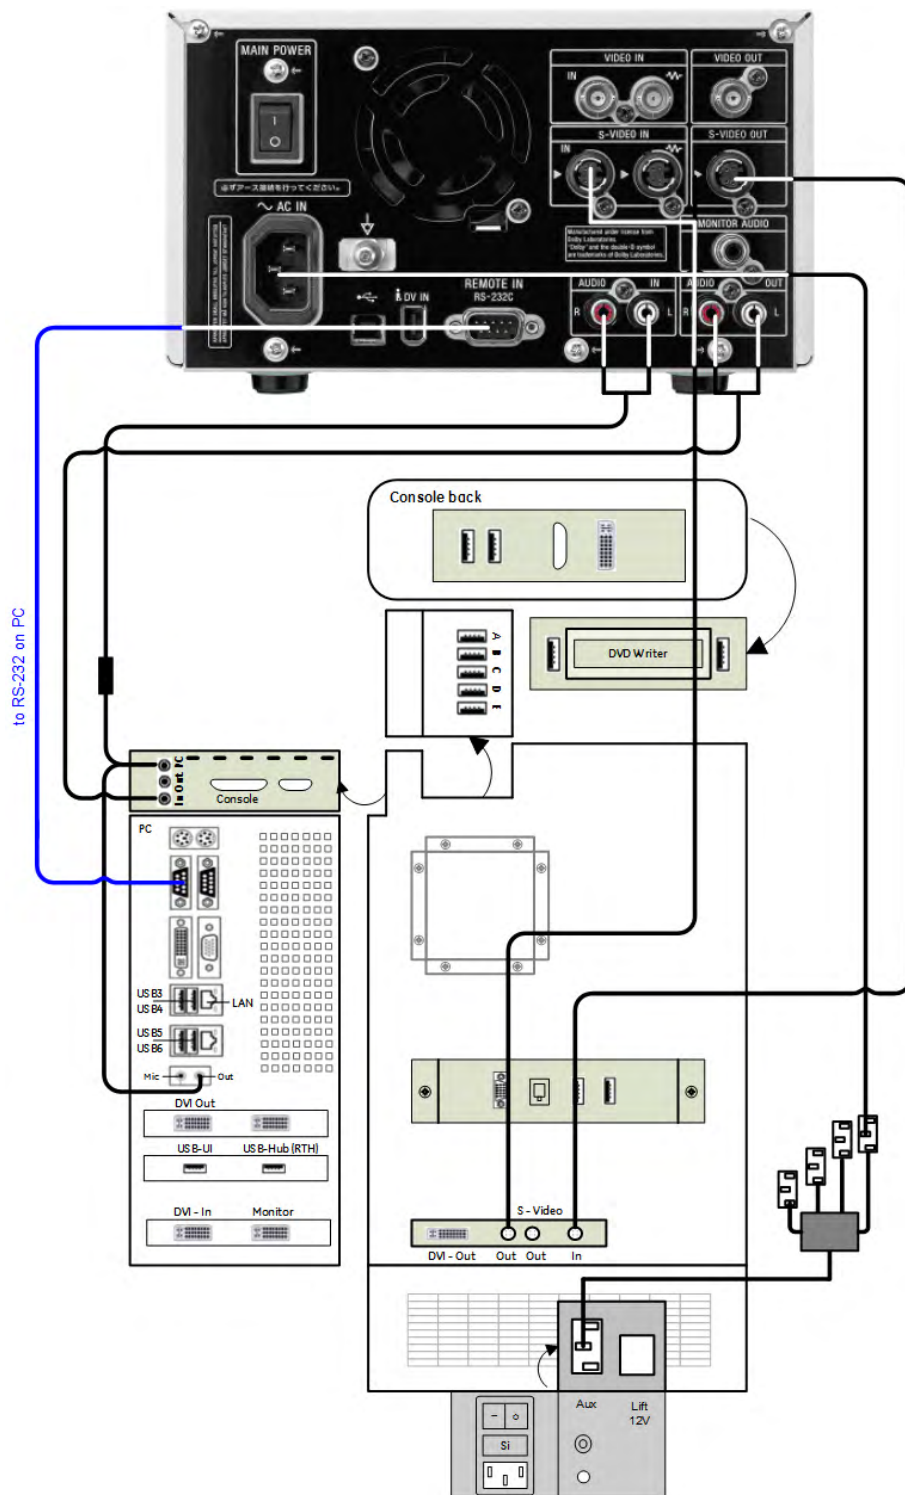

Figure 3-10 DVD Recorder connection - ADVANTECH PC-Motherboard
- Figure 3-10 "DVD Recorder connection - ADVANTECH PC-Motherboard" on page 3-20